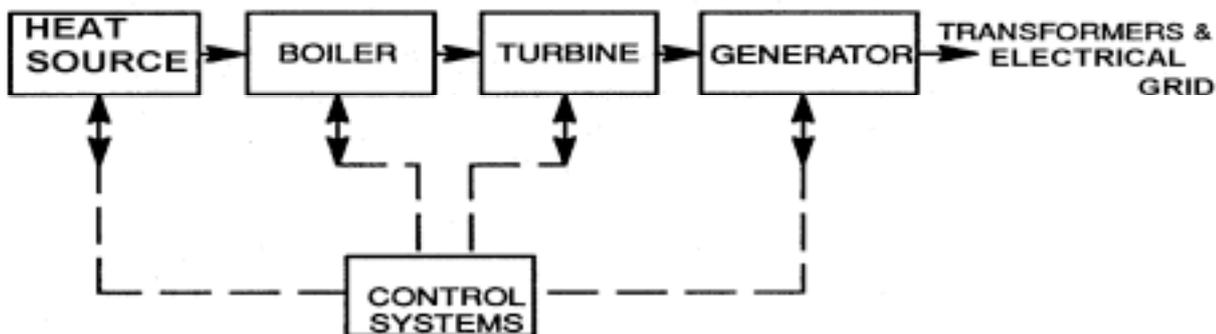

Figure 1. Simplified Electric Generating Station **us** must be known.
- A typical industrial plant such as an electric generating station (Figure 1) yields many process variables that have to be **measured** and **manipulated**.